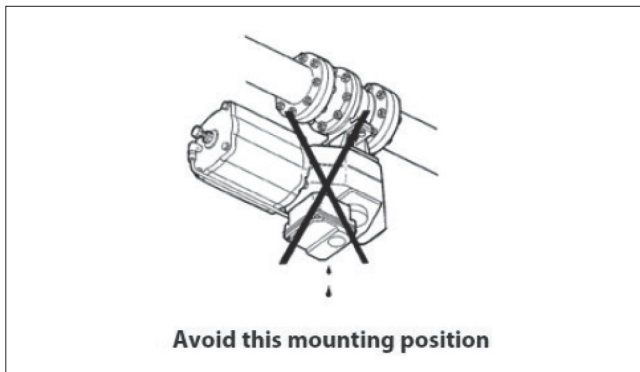

Fig. 3 Avoid this mounting position
4. It is not recommended to install the valve with the stem on the underneath side because dirt in the pipeline may then enter the body cavity and potentially damage the stem packing (see Figure 3).
The valve may be installed in any position and offers tightness in both directions except shown in Figure 3.